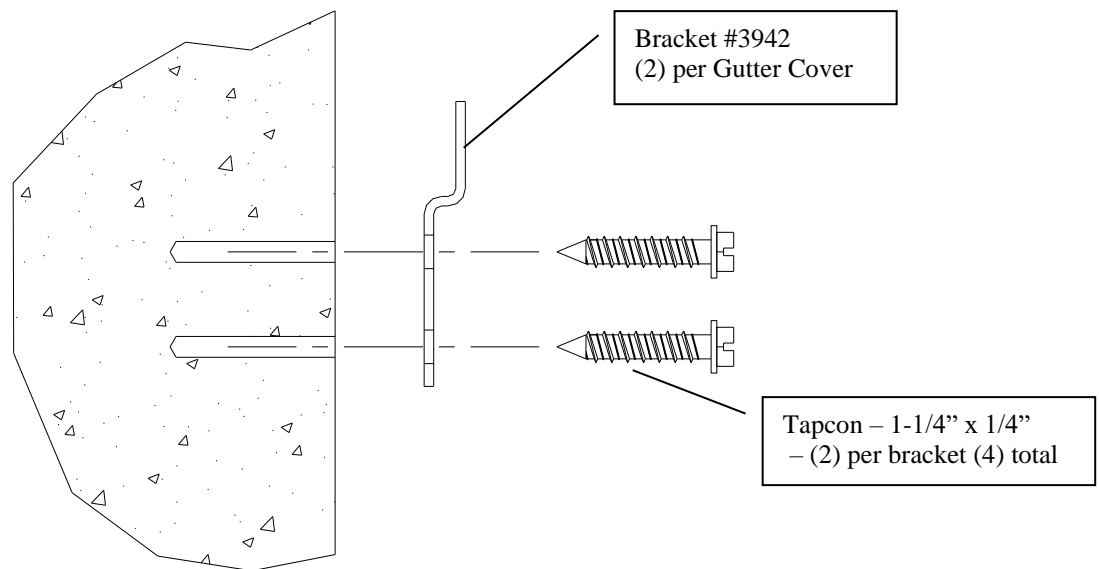

Figure 3.
- Using a 3/16" drill bit, drill (2) holes at least 1-1/4" deep through the marks made in Step 2.
- Attach the brackets to wall using 1/4" x 1-1/4" hex head Tapcon screws (not supplied) through the mounting holes in the support brackets. See Figure 3.